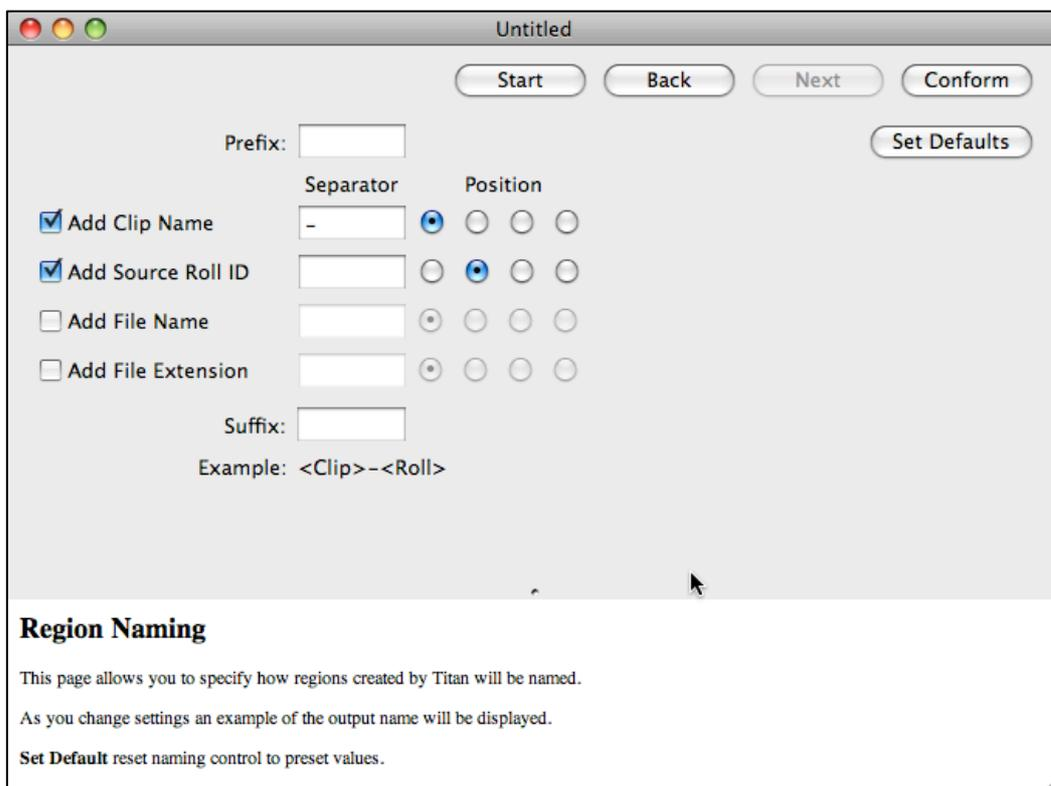

Figure 12 Region naming window
- If you are following the example, use the default region naming options. Click **Set Defaults** to do this. The region-naming page will look as shown in Figure 12. Notice that the **Conform** button is now active.